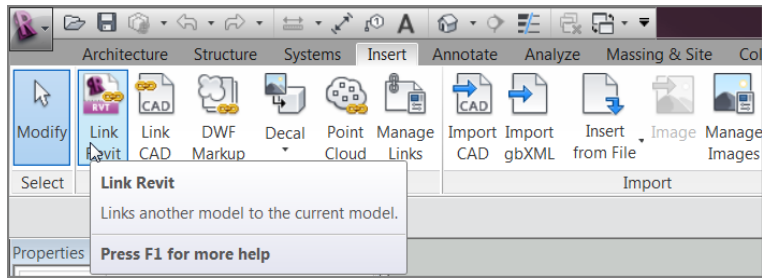

FIGURE 20.1: The Link Revit button on the Link panel of the Insert tab
3. On the Link panel of the Insert tab, click the Link Revit button, as shown in Figure 20.1.